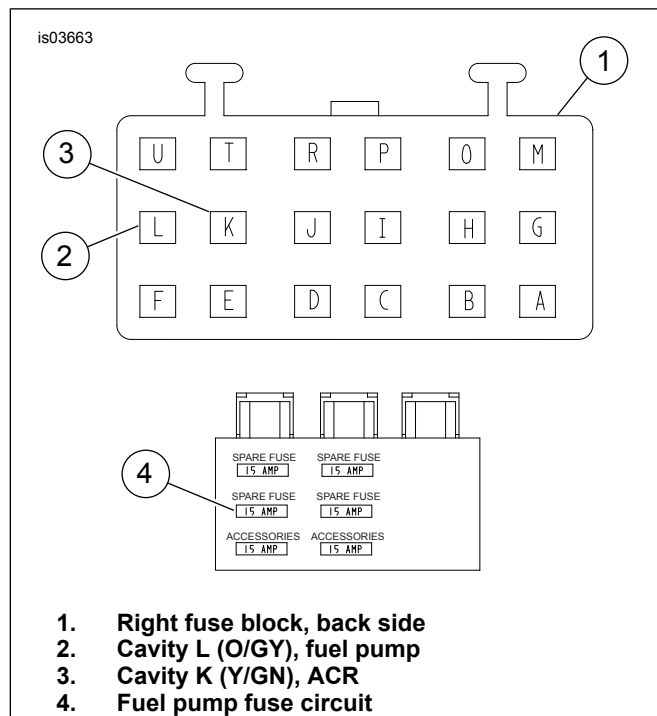

Figure 25. Right Fuse Block (Modified)
- See Figure 25. Install fuel pump fuse (O/GY) terminal wire previously removed from cavity G in left fuse block into spare fuse cavity L (2) in right fuse block.